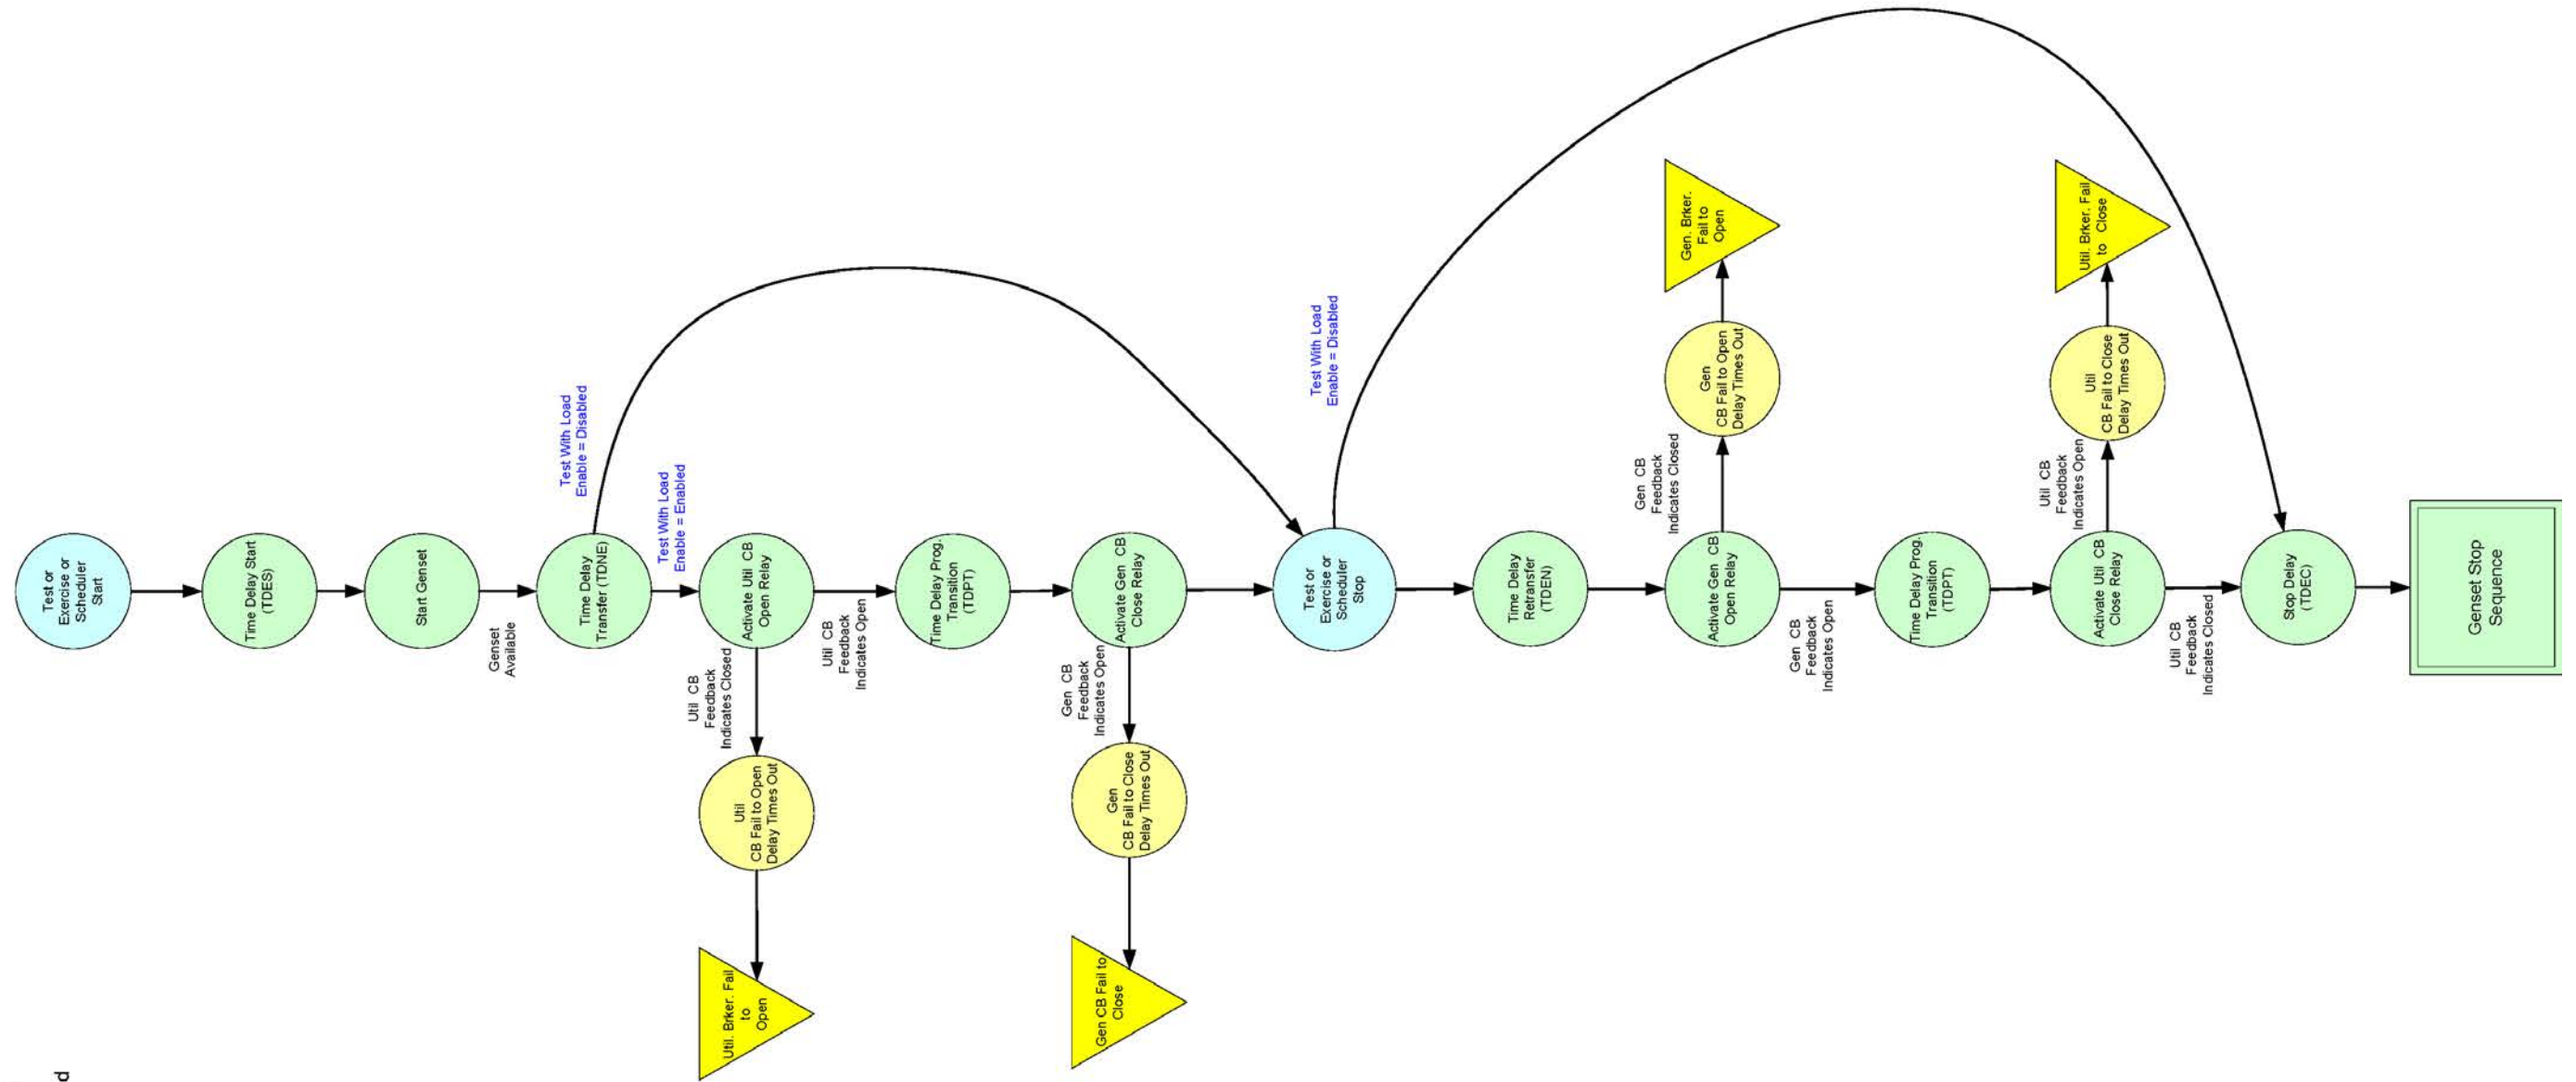

FIGURE 150. POWER TRANSFER CONTROL: TEST/EXERCISE/SCHEDULER, OPEN TRANSITION
- Figure 150. Power Transfer Control: Test/Exercise/Scheduler, Open Transition 682